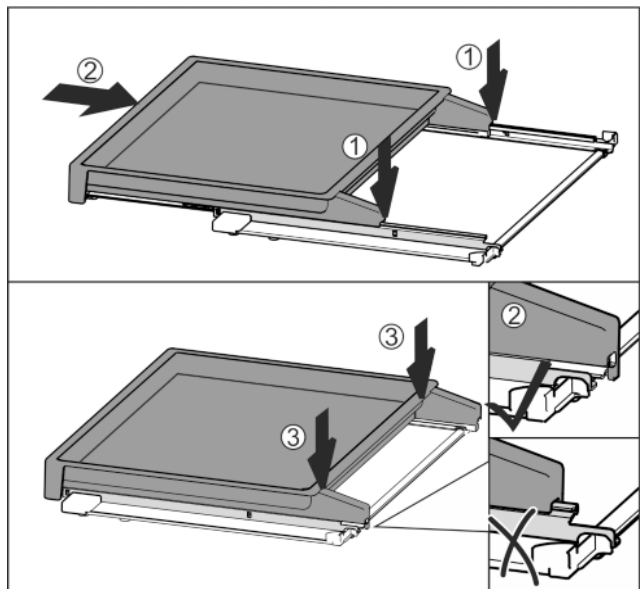

Fig. 38
- ▶ Place centrally on the rails Fig. 38 (1).
- ▶ Slide the pull-out board all the way in Fig. 38 (2).
- ▶ Press down at the back until it clicks into place Fig. 38 (3).